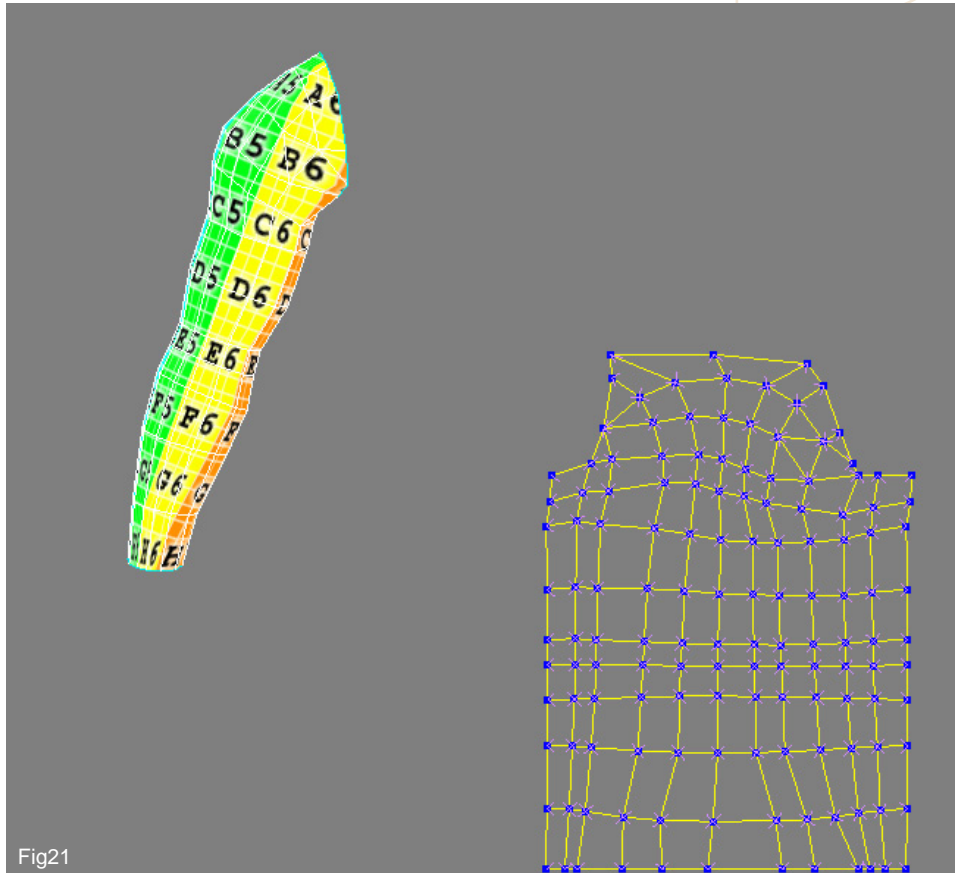

Fig21
21. Use a cylindrical sub-projection for the arm, like shown in Fig21. Probably you'll have to rotate the cylinder to make it fit better. Don't forget to rotate the cylinder so to have the seam in the inner part of the arm.